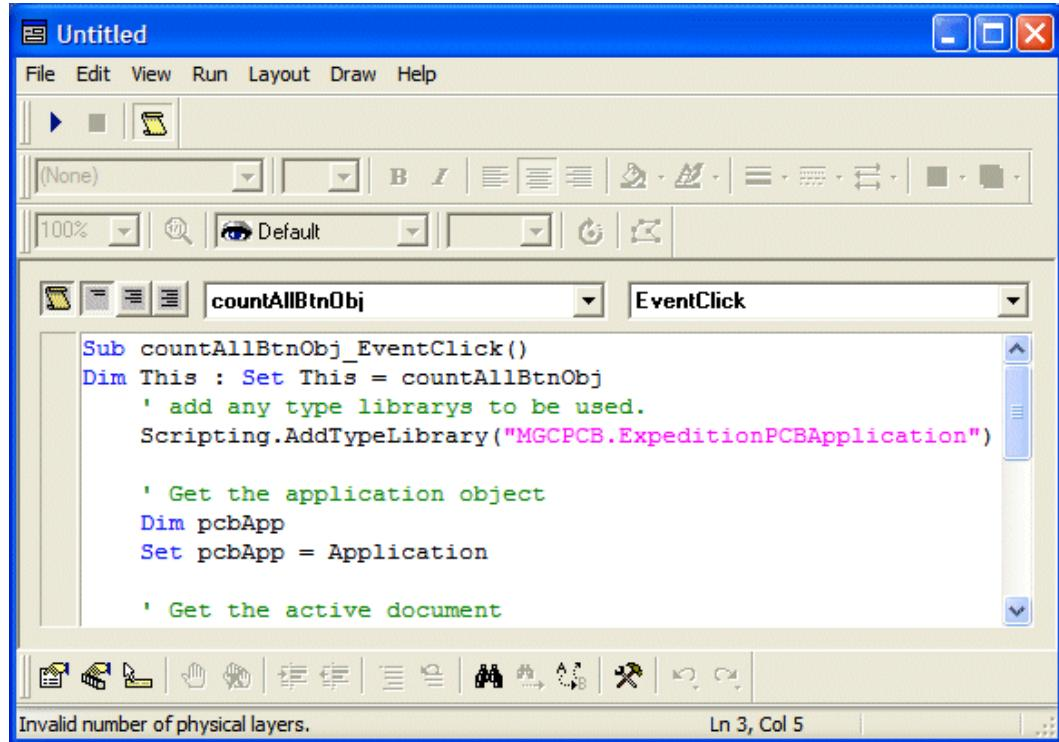

Figure 4-18. The event handler for the Count All button's click event.
- Paste this code between the *Dim* and *End Sub* statements in the IDE editor as illustrated in Figure 4-18.